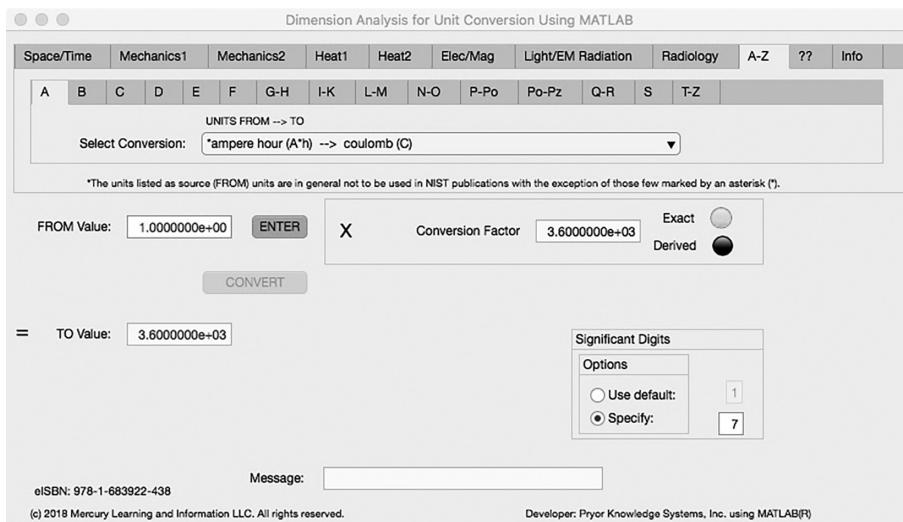

FIGURE 5.1-1 Unit Converter Using MATLAB App A-Z - A Tab.
The first Minor Tab under the A-Z Major Tab is the A Tab (see Figure 5.1-1). This example demonstrates the conversion of ampere hour (A^*h) to coulomb (C). In this example, the amplitude of ampere hours is set equal to one (1.0). The conversion equation is shown in Example 5.1-1 {37}.